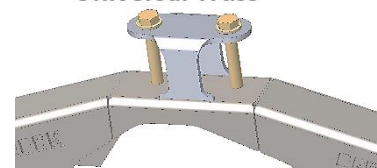

Figure 15
89. Weld upper control arm bracket to truss (see figure 15). **Box Truss:** Be sure holes are aligned in the bracket/truss and leave 2-5/8\" plus some wiggle room for mounting control arms. **Plate Truss:** Using the bracket as a template: place the bracket flush to front edge of truss and directly over the axle centerline, then mark the location of holes to be drilled. Drill the two holes starting with a small drill size and ending with 9/16\" Use plenty of oil. Be sure bolt holes are aligned in the bracket/truss and leave 2-5/8\" plus some wiggle room for mounting control arms before welding.
90. Assemble UCA mounting bolts and nuts from **HK #150** onto truss (see figure 15 & 16). Snug bolts and weld nuts to bottom of truss. **Box Truss:** Stitch weld the truss gusset into the inside of the truss. Ensure holes in gusset are aligned to truss (if applicable).